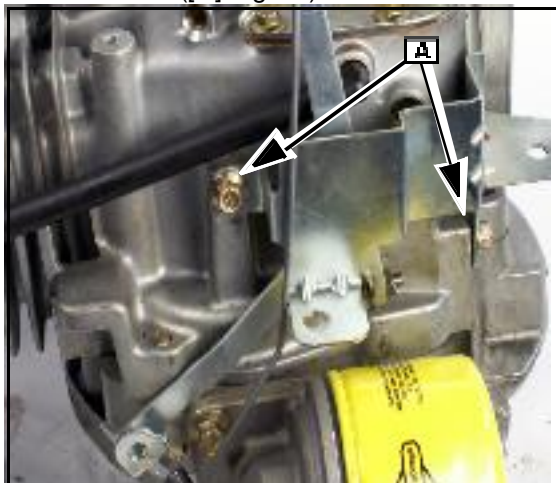

Fig. 11
3. Remove the screws holding the control bracket ([A] Fig. 11).